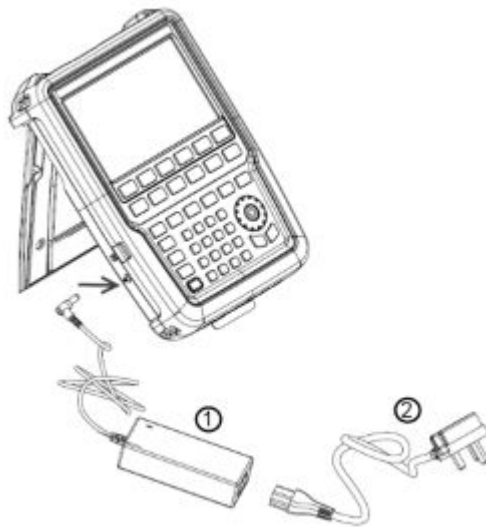

Figure 3-1: AC adapter
Connect the AC adapter to the DC port on the left side of the R&S Spectrum Rider (item 1 of Figure 3-1). Make sure to fully insert the AC adapter plug into the DC port.
Depending on the system you need, firmly connect the appropriate power cable included in the delivery to the AC adapter (item 2 of Figure 3-1).